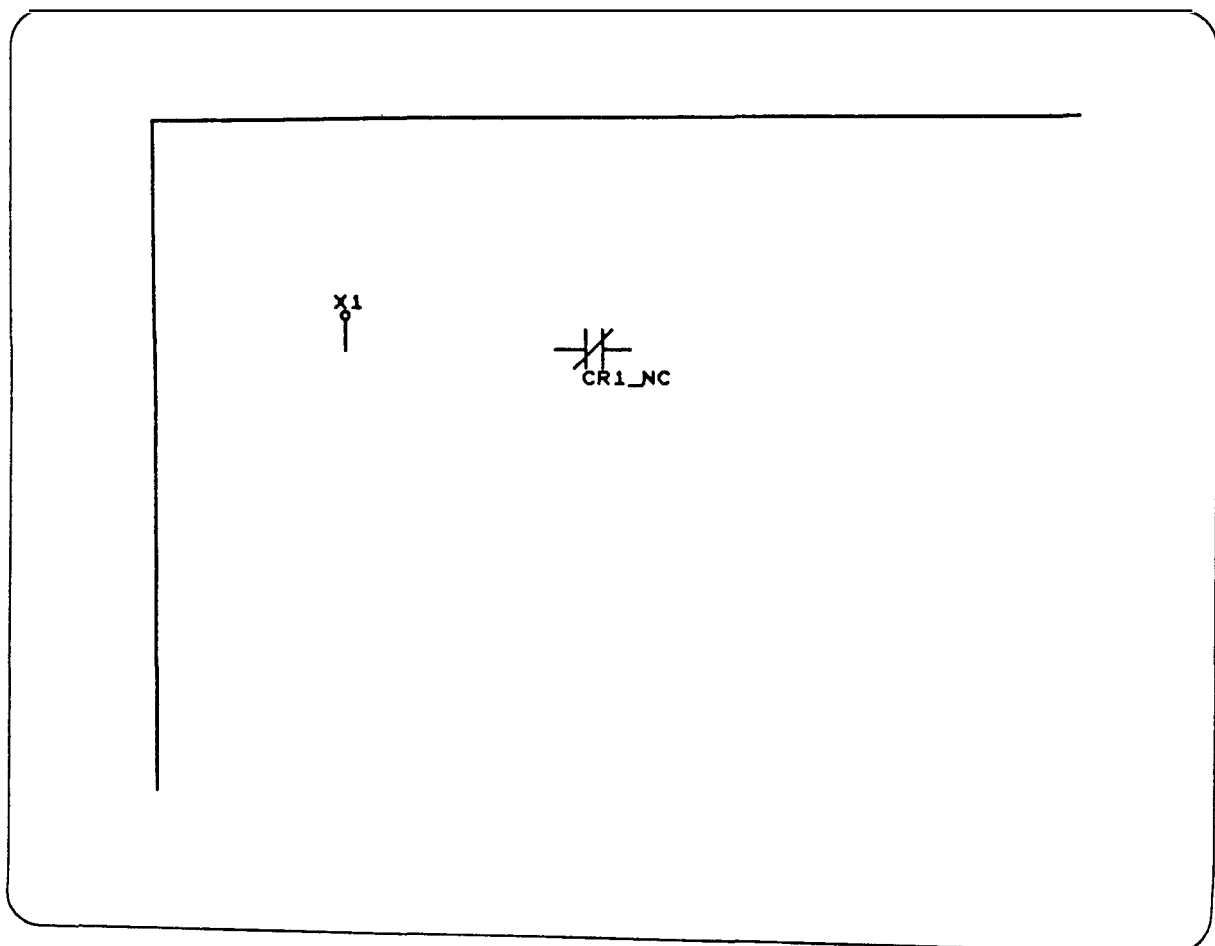

Figure 4-5.
19. Position as in Figure 4-5.